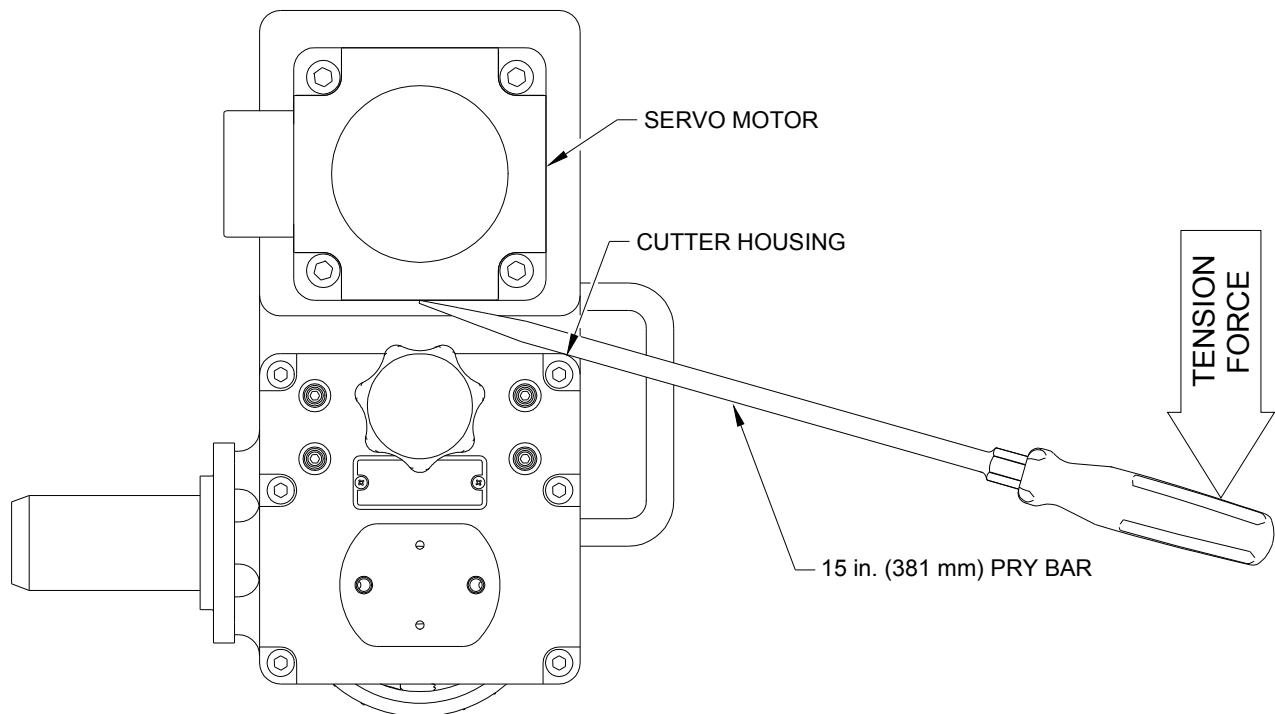

Figure 14. Tensioning the Drive Belt
The main problem with tensioning the Drive Belt is accurately applying the required separation force with tools readily available on the factory floor. Placing a 15 in (381 mm) pry bar on top of the corner of the Cutter Housing and underneath the mid-point of the Servo Motor flange, as shown in Figure 14, allows the Drive Belt to be easily tensioned. This lever/fulcrum creates a force multiplier of four times.
With the Weld Shaver in the position shown in Figure 14, the proper Tension Force with a 15 in (381 mm) pry bar will be 50 lbs. (222 N) for a new belt, and 40 lbs. (178 N) for a used belt. Once the proper Tension Force has been applied, tighten the (4) four M10x1.5 Flanged Hex Nuts to 32 lb-ft (43 Nm). Replace the Belt Cover and re-install the eight (8) M6x1 Socket Head Cap Screws. Tighten the M6x1 Socket Head Cap Screws to the torque specified in Section 7.0.